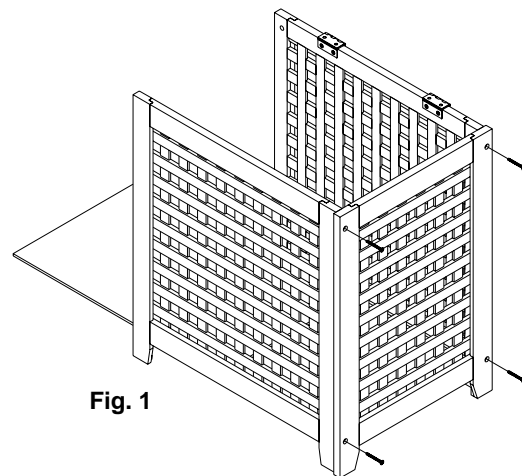

Fig. 1
1. Attach front panel (B) / back panel (C) / right side panel (E) with assembly screw (H). Insert the bottom panel (F) into the unit . (see fig 1.)